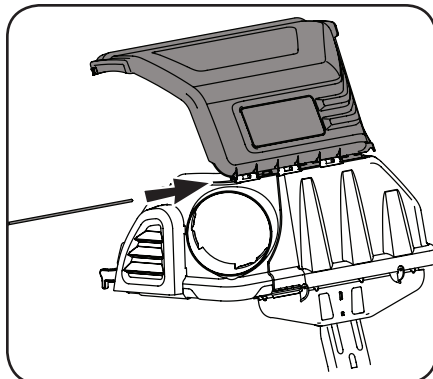

Figure 4-8
4. From the front of the assembly, line up the tabs on the upper grass catcher cover with the tabs at the front of the upper chute support (631-05474). Slide the hinge pin through the slots beginning at the right side upper chute support of the mounting tabs, as in Figure 4-8. Push the pin (711-06701) all the way in until it reaches the end-stop.